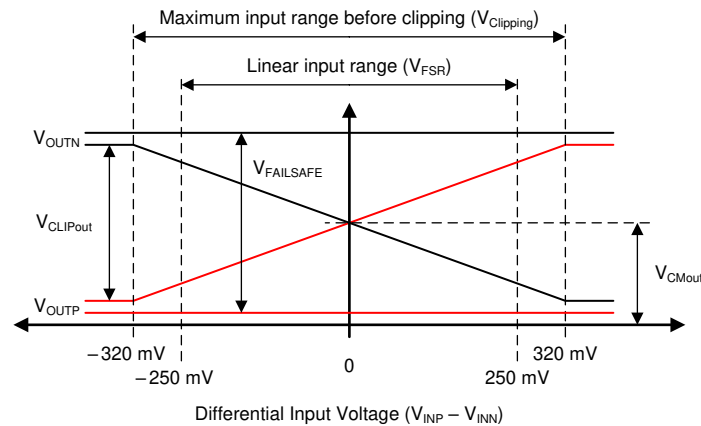

图 7-2. Output Behavior of the AMC3301
The AMC3301 offers a differential analog output comprised of the OOUTP and OOUTN pins. For differential input voltages ($V_{INP} - V_{INN}$) in the range from -250 mV to $+250\text{ mV}$, the device provides a linear response with a nominal gain of 8.2. For example, for a differential input voltage of 250 mV , the differential output voltage ($V_{OOUTP} - V_{OOUTN}$) is 2.05 V . At zero input (INP shorted to INN), both pins output the same common-mode output voltage V_{CMout} , as specified in the Electrical Characteristics table. For absolute differential input voltages greater than 250 mV but less than 320 mV , the differential output voltage continues to increase in magnitude but with reduced linearity performance. The outputs saturate at a differential output voltage of $V_{CLIPout}$ as shown in Figure 7-2 if the differential input voltage exceeds the $V_{Clipping}$ value.
The AMC3301 provides a fail-safe output that simplifies diagnostics on system level. Figure 7-2 shows the fail-safe mode, in which the AMC3301 outputs a negative differential output voltage that does not occur under normal operating conditions. The fail-safe output is active in two cases:
- The low-side does not receive data from the high-side (for example, because of a loss of power on the high side). In this case, the amplifier outputs are driven to the V_{FAILSAFE} value that is shown in Figure 7-2.
- The high-side DC/DC output voltage (DCDC_OUT) or the high-side LDO output voltage (HLDO_OUT) drop below their respective undervoltage detection thresholds (brown-out). In this case, the low-side may still receive data from the high-side but the data may not be valid. The amplifier outputs are driven to the V_{FAILSAFE} value that is shown in Figure 7-2.